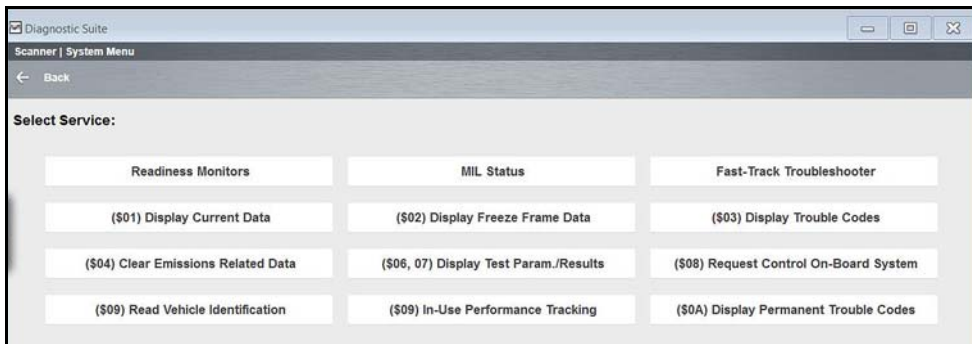

Figure 6-2
5. Make a selection from the available service menu options (Figure 6-2).